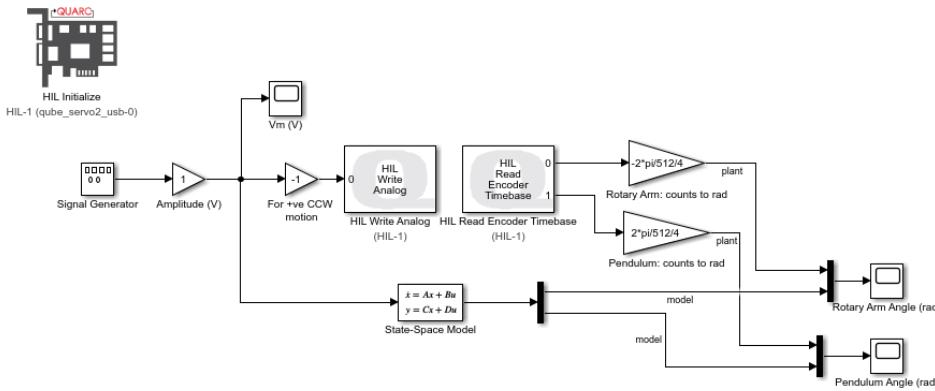

Figure 2.1: Applies a step voltage and displays measured and simulated pendulum response.
1. Open (if supplied) or design the **SIMULINK®** model shown in Figure 2.1 that applies a 1 V, 1 Hz square wave to the pendulum system and state-space model.